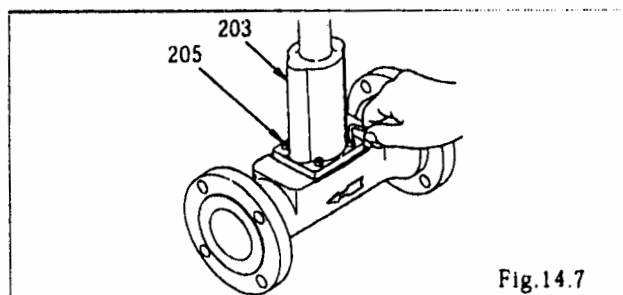

Fig. 14.7
- ⑨ Taking off bolts (205), adaptor (203) (Fig. 14.7).